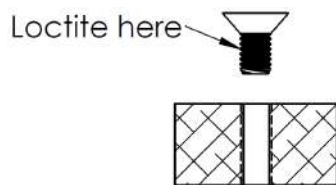

Fig.1 Through Hole
- B. For through holes, apply threadlocker directly on screws (fig 1)